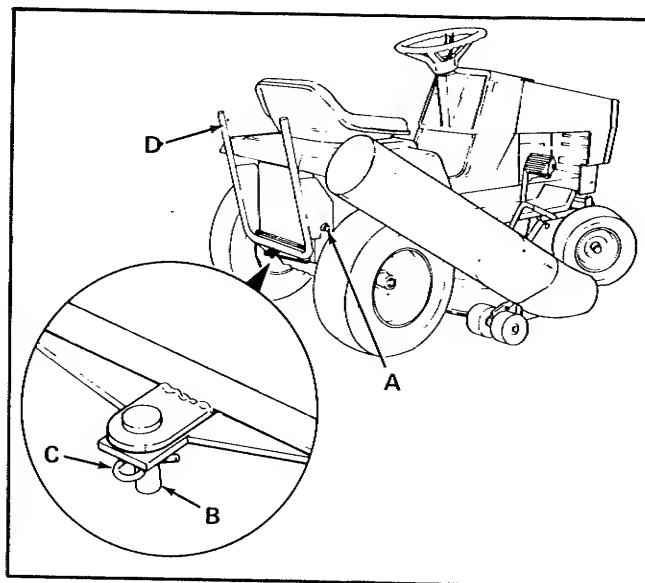
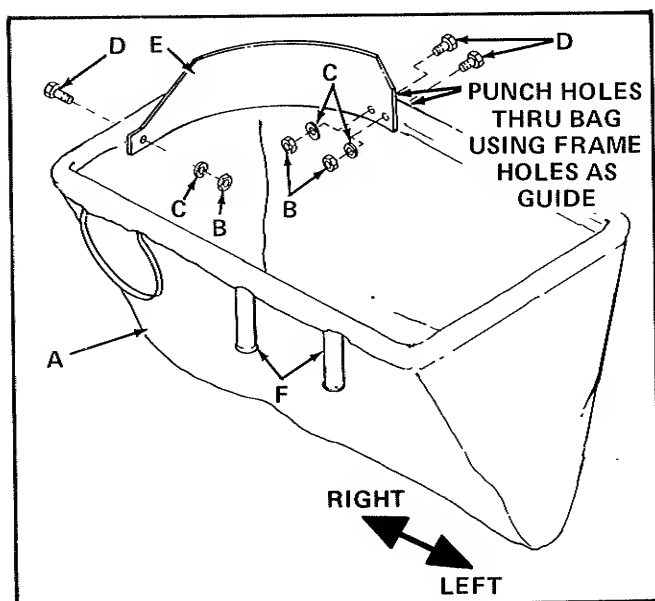

Figure 6. Install Hanger & Discharge Tube
Figure 7. Assemble Bag Unit
2. Install hanger (D, figure 6) on tractor. Pin (B) at bottom of hanger fits into hole in tractor hitch while slots on side of hanger fit over spacers (A).
3. Install spring clip (C) through hole in end of pin (B).
4. Fully open zipper and place bag inside frame with discharge tube hole in right of frame support tubes as shown in figure 7. Pull bag forward and slip holes nearest edge over frame support tubes (F). Slip the support tubes (F) over the tubes of the hanger (D, figure 6). Start and fully close the zipper to hold bag to frame.
- Place the deflector (E, figure 7) inside of frame with narrow part near right front corner as shown in illustration. Fasten deflector to frame at this point using one of the small diameter capscrews (D) received with the grass catcher. Add a lockwasher (C) on the inside of the deflector and then install and tighten a nut (B).
- Bend deflector to shape shown in figure 7 so other end fits inside of frame. Secure this end of the deflector to the frame using two capscrews (D), lockwashers (C) and nuts (B).